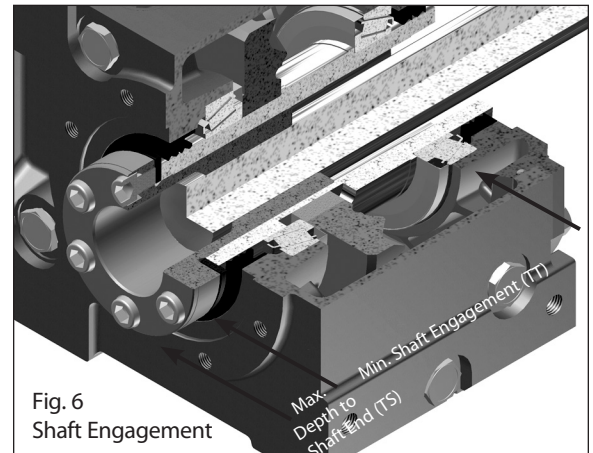
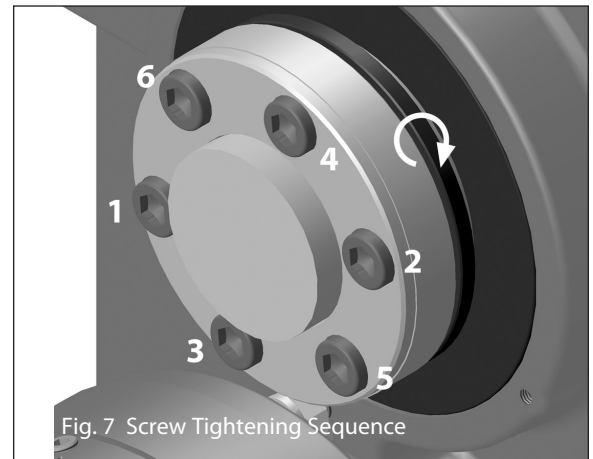

Fig. 6 Shaft Engagement
Fig. 7 Screw Tightening Sequence
Step 8 – Position unit with the bushing flange located on the outboard side of the unit. Align the bushing with the driven shaft. Slide the unit onto the driven shaft as close to the driven shaft support bearing as possible. Ideally, the driven shaft should extend beyond the bushing flange face (see Fig. 7). Refer to Fig. 6 and Table 2 below for minimum shaft to bushing engagement. For maximum depth to the end of the shaft, refer to Fig. 6 and Table 3 below.
Step 9 – With a torque wrench, tighten the cap screws in 20% increments to engage the bushing system. Use the appropriate tightening pattern (“star-pattern” see Fig. 7) to assure complete bushing engagement. Tighten each cap screw to the torque values shown in Table 4.